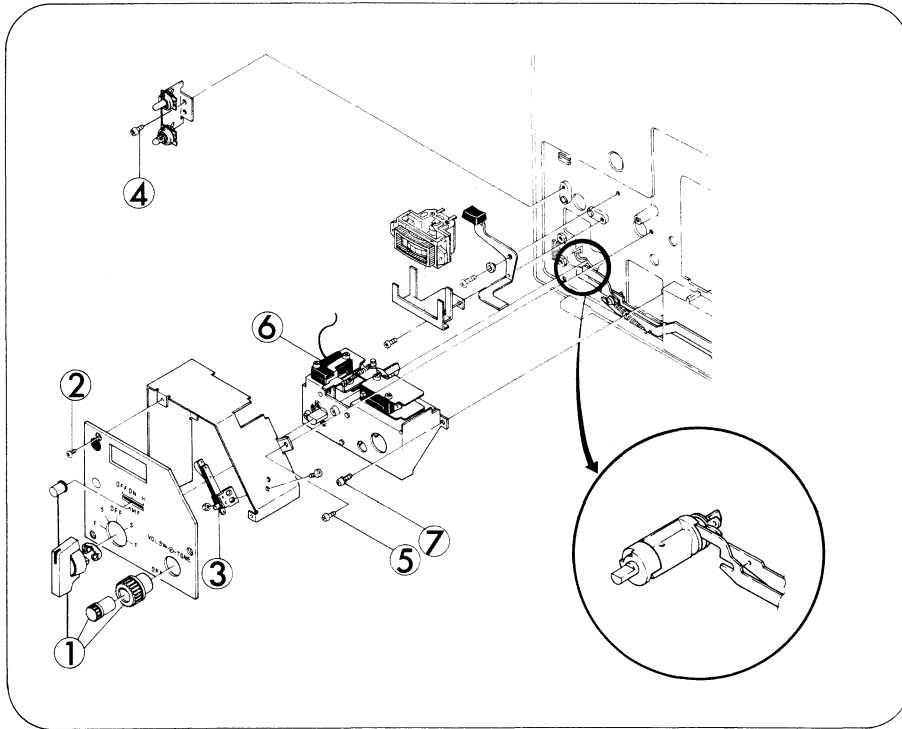

Fig. 12
## 5. SWITCH MECHANISM (Fig. 12)
2. Attach Switch assy to Base frame. To do this, first, join Switch cam and both Reverse lever and Clutch lever (3) as indicated in Fig. 12, and tighten attaching screws (Fig.12-7,x3).